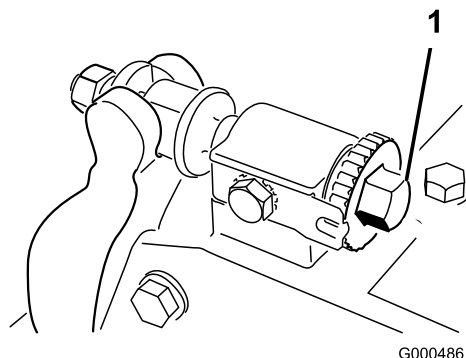
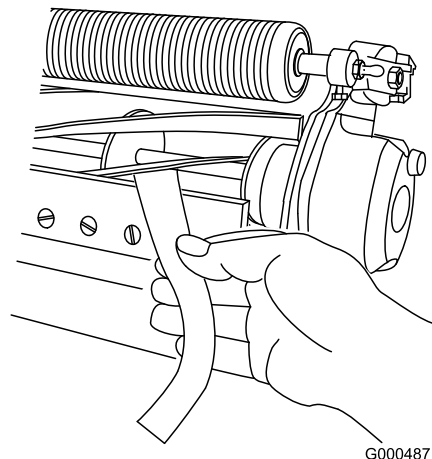

Figure 51
Figure 52
2. Make sure reel contact is removed by turning bedbar adjusting screws counterclockwise (Figure 51).
6. After adjustment is accomplished, check to see if reel can pinch paper when inserted from the front and cut paper when inserted at a right angle to the bedknife (Figure 52). It should be possible to cut paper with minimum contact between the bedknife and the reel blades. Should excessive reel drag be evident it will be either necessary to backlap or regrind the cutting unit to achieve the sharp edges needed for precision cutting (see Toro reel sharpening manual).
4. At one end of reel, insert a long strip of newspaper between reel and bedknife (Figure 52). While slowly rotating reel forward, turn bedbar adjusting screw clockwise (on same end of reel) (Figure 51), one click